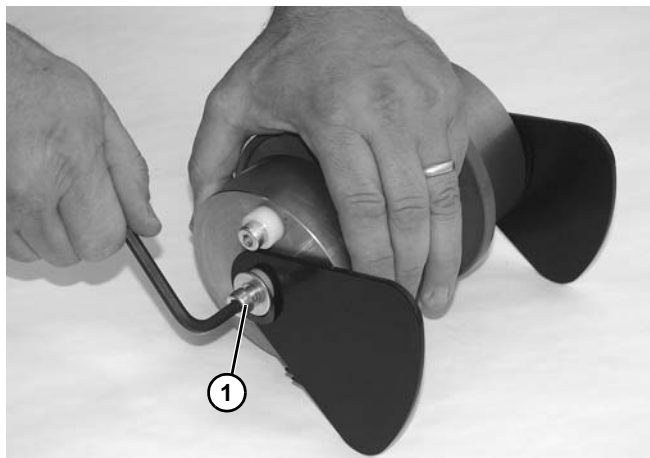

Figure 151
6. Remove socket head screw (Figure 151, item 1) from end of idler pulley assembly.